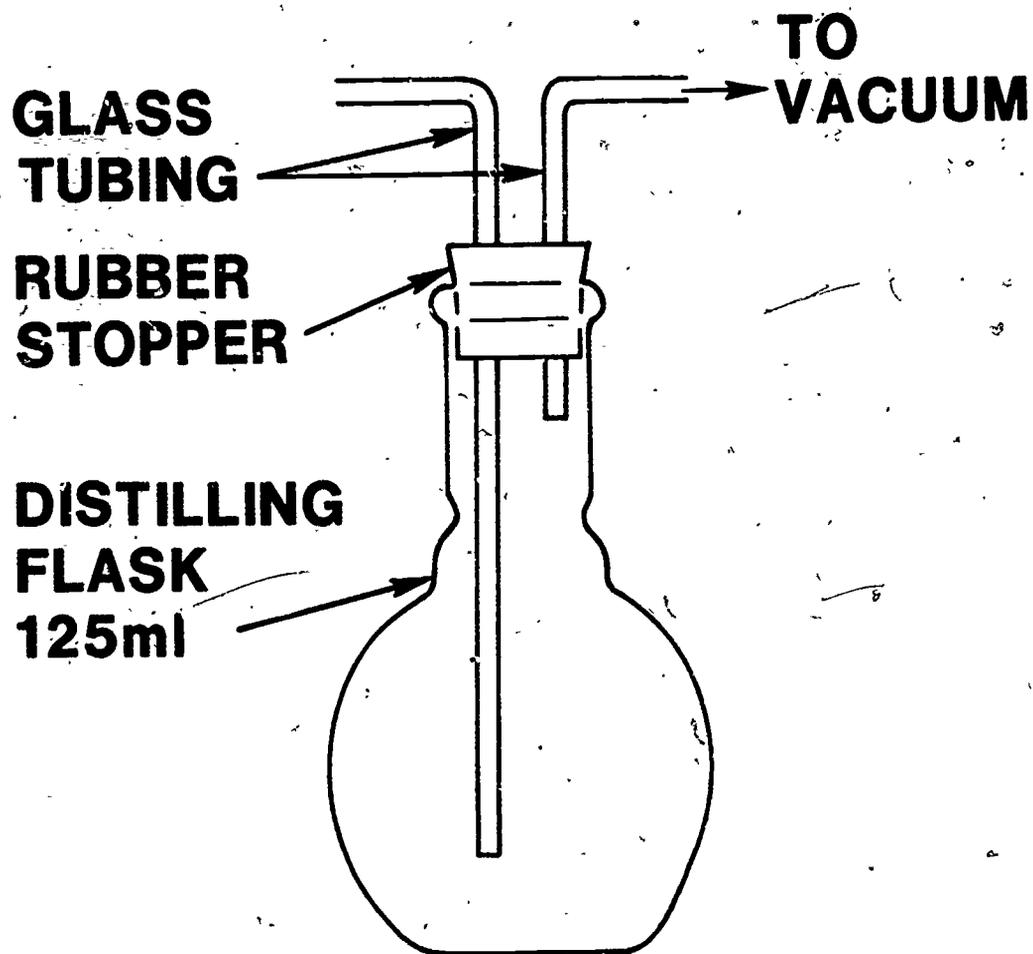

FIGURE 2
22. Rubber stopper and glass tubing for preparing suction device; see figure 2
23. Beakers, 1000 ml (1), 100-150 ml (2)
26. Rubber stopper to fit the distilling flask, item 8 above; see figure 2.
27. Fifteen inches of pyrex glass tubing (6 mm size); see figure 2
28. Gas and laboratory burner to bend the glass tubing; see figure 2
29. File to cut the glass tubing; see figure 2